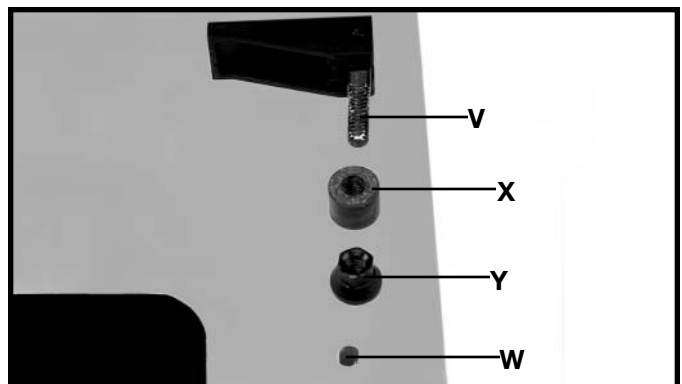

Fig. 5
3. Place the front panel so the label is facing you in the upright position. Assemble latch assembly to the right side of the front panel by inserting threaded end of stud (V) Fig. 5, through hole (W), place rubber bushing (X) on threaded stud, thread special nut (Y) onto stud.